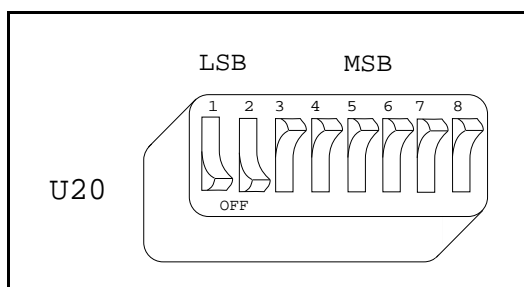

Figure 1. GPIB Device Simulator Set to Address 3
- Figure 1. GPIB Device Simulator Set to Address 3 1
The first 5 switches set the address. Switch 1 is the least significant bit (LSB) and switch 5 is the most significant bit (MSB). Figure 1 shows an example of the Simulator set to address 3.